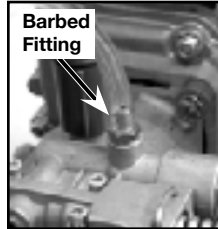

FIG. 8
1. Make sure the chemical hose is pressed onto the barbed fitting located near high-pressure hose. (Fig. 8)